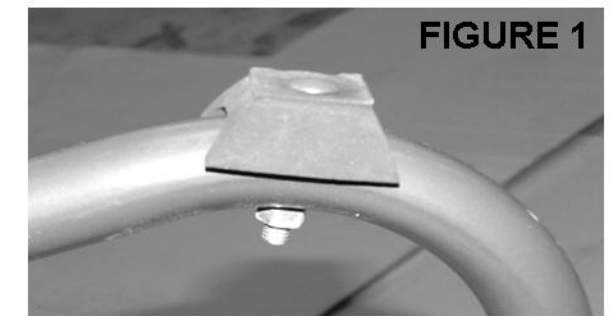

FIGURE 1
1. Attach rubber feet (G) to bottom of the frame (A). Insert bolts into the bottom of the frame. Attach nuts and tighten. Repeat for other side. See Figure 1.